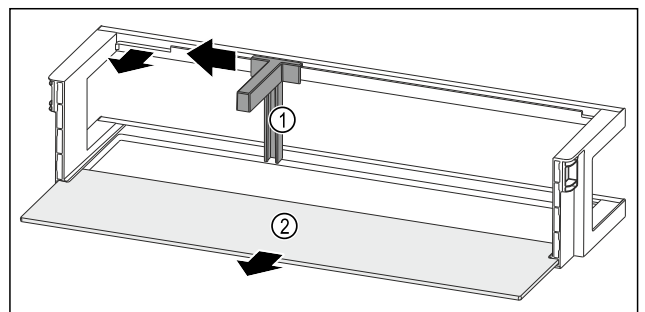

Fig. 118 Door rack with bottle holder and shelf
- Slide the bottle holder Fig. 118 (1) to the side as far as the recess.
- Remove the bottle holder Fig. 118 (1).
- Remove the shelf Fig. 118 (2).